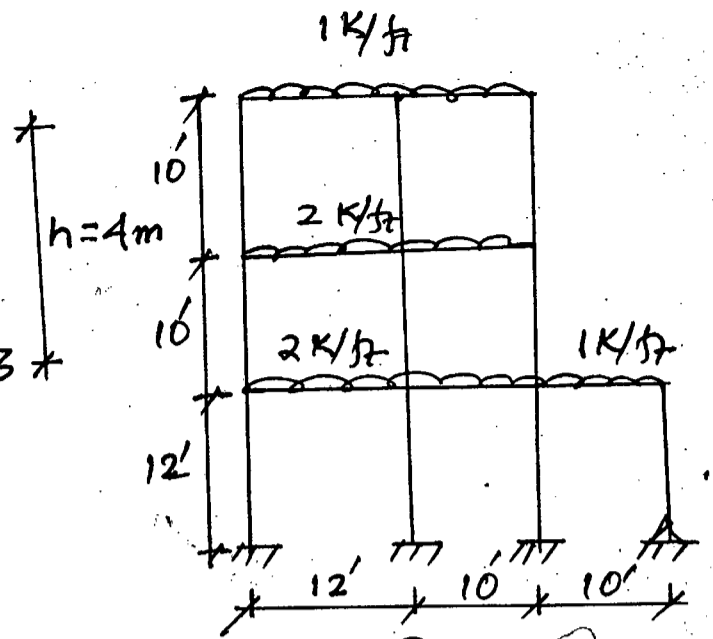

Figure 9
9. (a) Draw the axial force, shear force and bending moment diagrams for the building frame loaded as shown in Figure 9. **(28 2/3)**